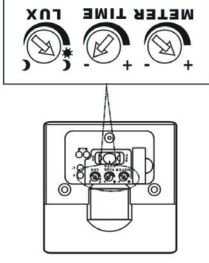

Fig. 11
2. Switch the sensor switch to the middle position for "AUTO" function. (See Fig. 11)
4. Adjust the sensor "METER" knob as necessary to improve coverage until it meets users preference. (See Fig.11)
(See Fig. 11)
After fitting the unit use the slide switch to set the "ON", "AUTO" or "OFF" functions. (See Fig. 11)